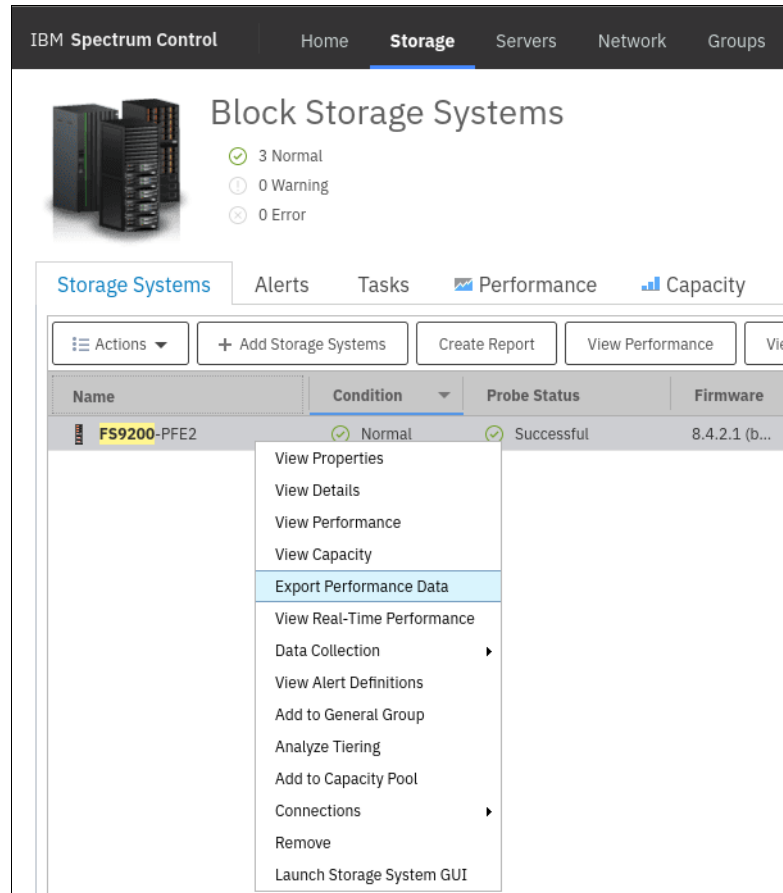

Figure 9-80 IBM Spectrum Control: Export Performance Data
2. Right-click the storage resource, and then click **Export Performance Data** (see Figure 9-80 on page 545).